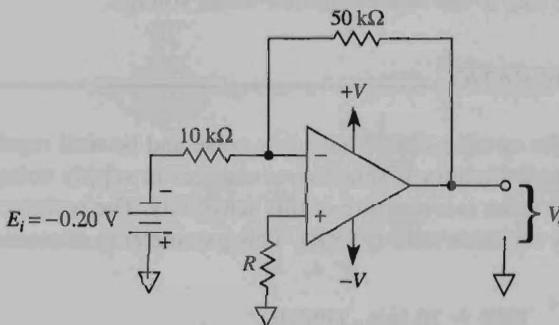

FIGURE P9-16
- 9-16.** Refer to Fig. P9-16. $V_{io} = 3 \text{ mV}$, $I_{B-} = 0.4 \mu\text{A}$, and $I_{B+} = 0.1 \mu\text{A}$. (a) What is the best value for resistor R ? Calculate the individual error in the output voltage, V_o , due to (b) V_{io} only; (c) I_{B+} only; (d) I_{B-} only; (e) I_{os} only. The ideal value of V_o should be 1.00 V because of E_i . (f) What is the actual value of V_o when both input offset voltage and current are present along with E_i ?